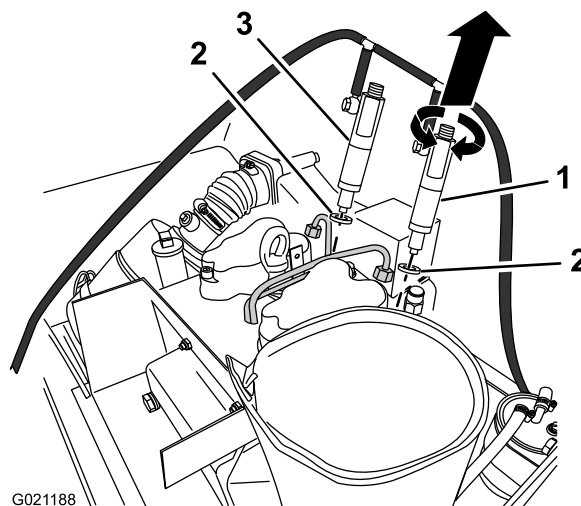

Figure 50
9. Using a twisting and pulling motion, remove the **rear-fuel injector** from the cylinder head (Figure 50).
10. Using a twisting and pulling motion, remove the **forward-fuel injector** from the cylinder head (Figure 50).